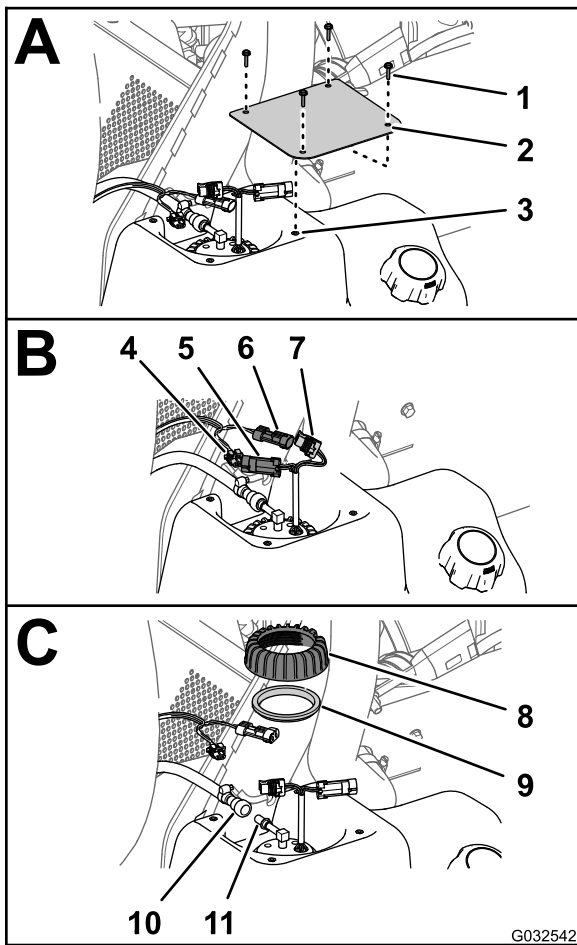

Figure 72
2. At the fuel tank, remove the 4 screws (#10 x 3/4 inch) that secure the cover to the top of the fuel tank, and remove the cover (Figure 72).
3. Disconnect the 2-socket connector of the machine-wiring harness from the 2-pin connector of the fuel pump/sending unit; disconnect the 2-pin connector of the machine-wiring harness from the 2-socket connector of the fuel pump/sending unit (Figure 72).
4. Slide the locking sleeve of the fuel-hose coupling away from the fitting of the fuel pump/sending unit and remove the coupling and hose from the fitting (Figure 72).
5. Rotate the nut for the fuel pump/sending unit counterclockwise and remove the nut and seal (Figure 72)